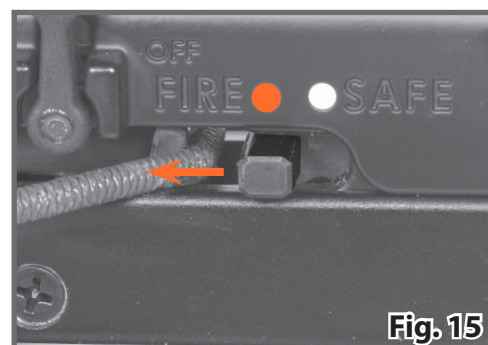

Fig. 15
3. Slide the safety switch from the ON SAFE position to the FIRE position. (Fig. 15)
8. Continue drawing until the trigger safety switch moves to the “ON SAFE” position. (Fig. 15)